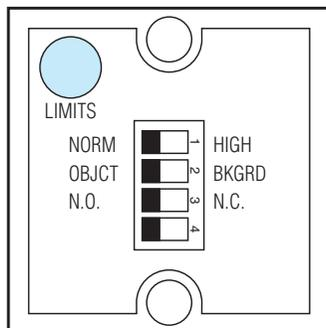

Figure 1
sively at the set points representing the desired inner (D_{wi}) and outer (D_{wo}) limits shown in Figure 1. When the LIMITS push-button is pressed at each set point, the respective distances (D_{wi} and D_{wo}) from the sensor are automatically calculated and stored in the sensor memory to represent the sensing window limits. During operation, the calculated distance (D) between the sensor and the object is compared to the distances between the sensor and the set window limits. If “ D ” is at or within the window limits, an output change takes place and remains unchanged until the echo either does not return or it returns from outside the window limits.
A unique feature available to the user of these sensors is the ability to quickly set up each sensor for a specific application. The sensor is configured through either three or four slide switches, depending on the model, and a push-button (See Figure 1) located inside a wa-